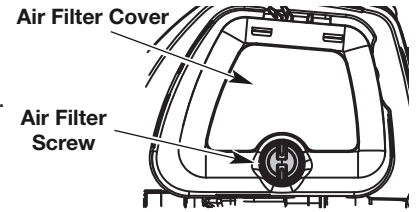

Fig. 22
1. Open the air filter cover by unscrewing the air filter screw (Fig. 22).
6. Turn the air filter screw clockwise until the air filter screw is tight (Fig. 22).